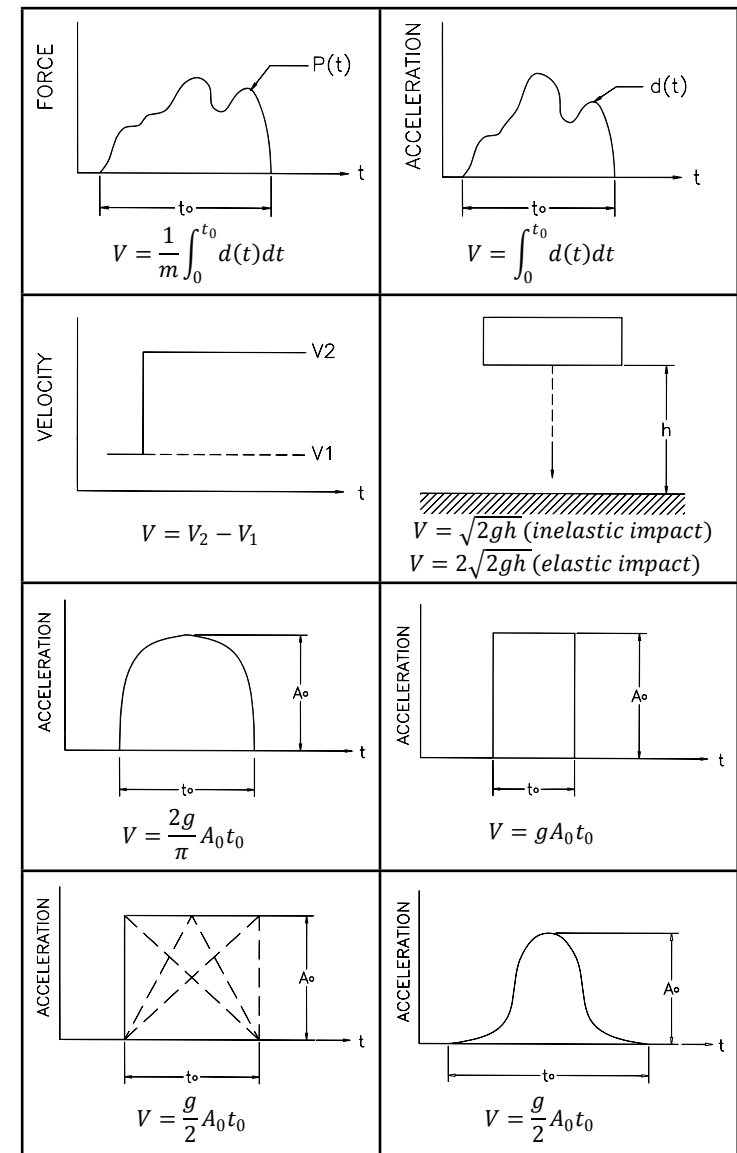

Figure 10
A convenient way to analyze shock problems is to use the velocity change method. Figure 10 gives equations to calculate the velocity change (V) for various shock excitations.
From Figure 10, $V = \sqrt{2gh}$